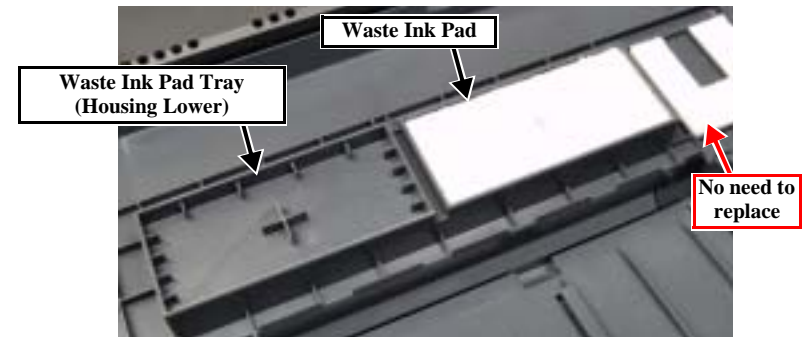

Figure 4-37. Removing the Waste Ink Pads
2. Remove Waste Ink Pads (x2) from the Housing Lower. (Fig. 4-37)